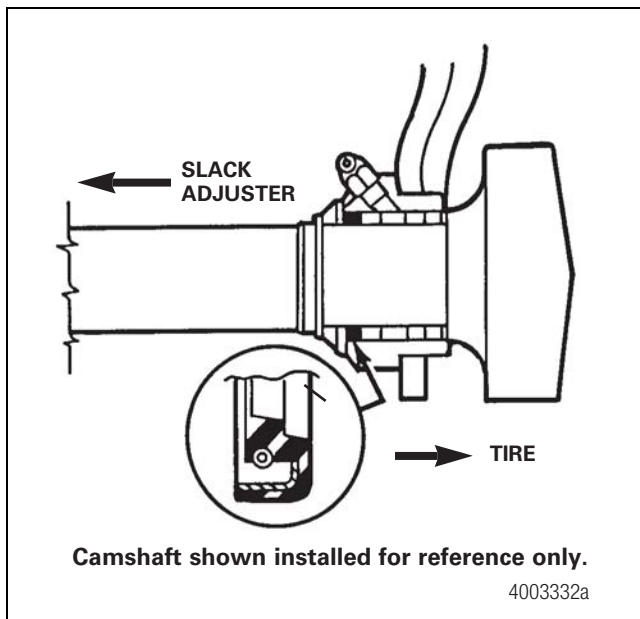

Figure 12.31
- A. For plastic bushings, install one grease seal. Verify that the seal lip faces toward the slack adjuster and that the seal body is pressed against the steel sleeve. Figure 12.31.